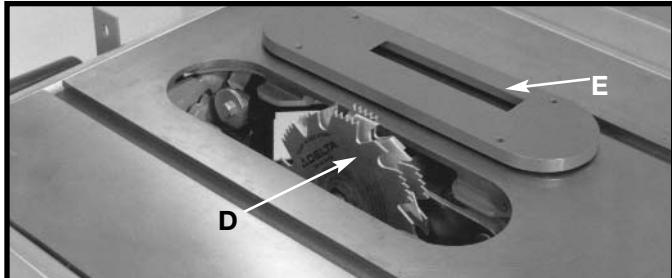

Fig. 51
2. Attach the dado head set (D) Fig. 51, to the saw arbor.
**CAUTION** THE ACCESSORY DADO HEAD SET TABLE INSERT (E) FIG. 51, MUST BE USED IN PLACE OF THE STANDARD TABLE INSERT.